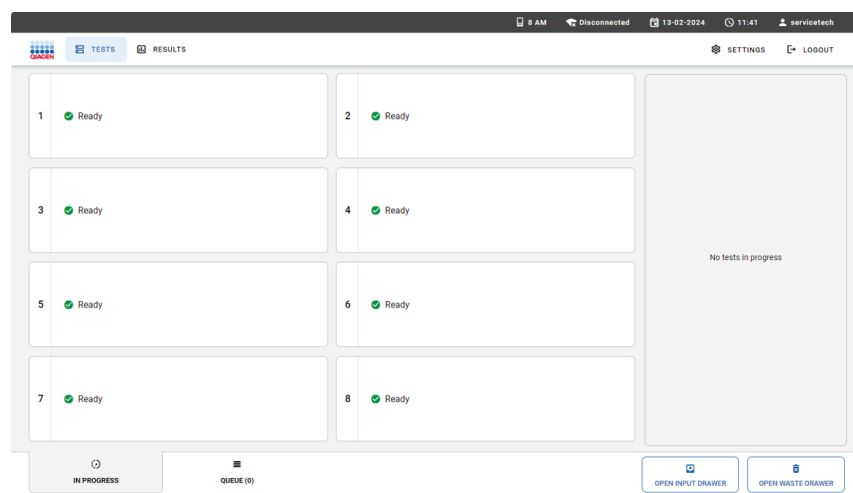

Figure 11. Main test screen.
1. Press the **OPEN WASTE DRAWER** button at the lower right corner of the main test screen (Figure 11) and remove used cartridges from previous runs. Check the waste drawer for spilled liquids. If necessary, clean the waste drawer as described in Section 8 Maintenance.
3. Press the **OPEN INPUT DRAWER** button at the lower right corner of the main test screen (Figure 11).